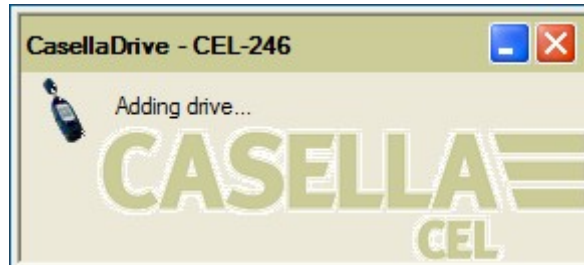

Figure 4: Downloading
2. The instrument will be automatically detected and downloaded. The window shown in Figure 4 will be displayed in the bottom right of the screen and the instrument will begin to download.